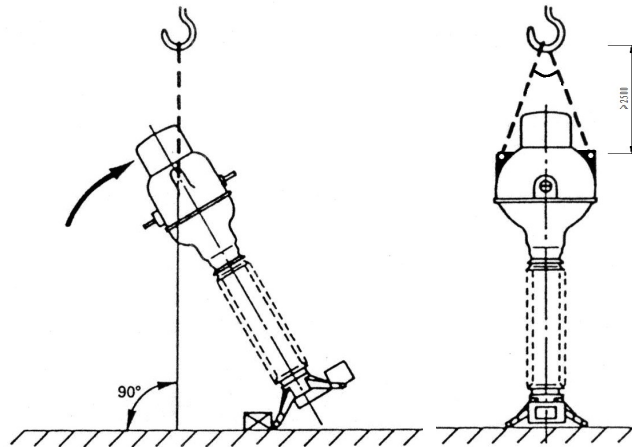

图 7.2 吊装示意图
(2) **起吊位置:** 用一根吊带锁扣住互感器头部储油柜两侧吊攀，产品起立时吊绳与地面必须成 90° 角，两股吊绳夹角不大于 30° 且吊绳不得碰到膨胀器外罩防损伤膨胀器外罩。如图 7.2 所示；
(2) Lifting Position: Use a sling lock to fasten the two sides of the oil storage tank on the head of the transformer and the lifting rope must be at a 90 ° angle to the ground when the product is standing up, the angle between the two suspension ropes shall not be greater than 30 ° and the suspension ropes shall not touch the outer cover of the expander to prevent damage to the outer cover of the expander. As shown in figure 7.2;
(3) placement requirements: When the transformer is placed vertically, it should be placed on a flat hard surface to prevent the dumping of the product.
Fig. 7.2 lifting diagram